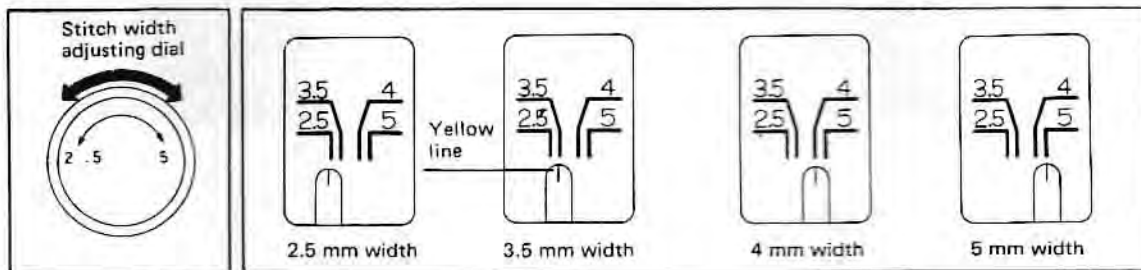

Figure 16
4. Turn the stitch width adjusting dial and align the stitch width yellow indicator line to the desired stitch width line (Figure 16).